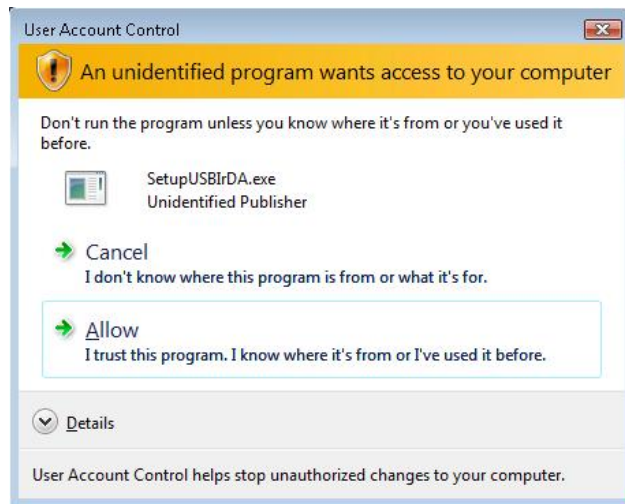
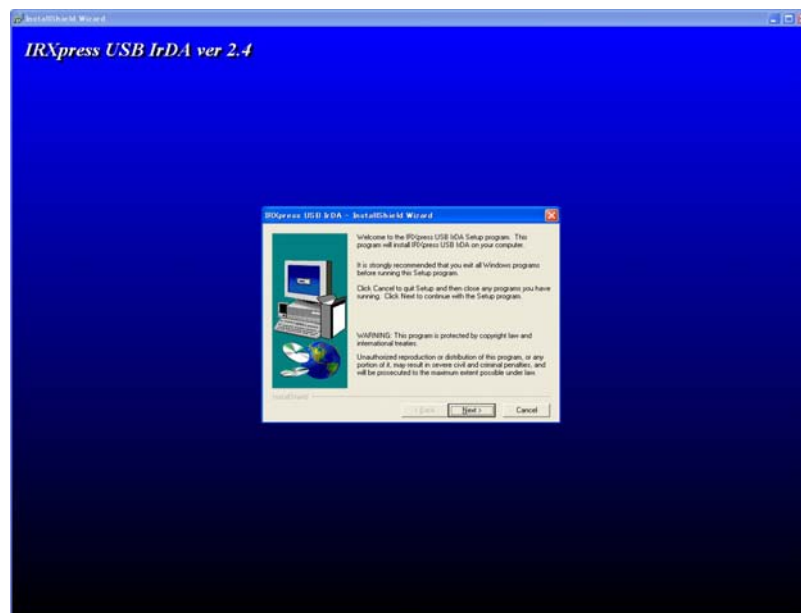
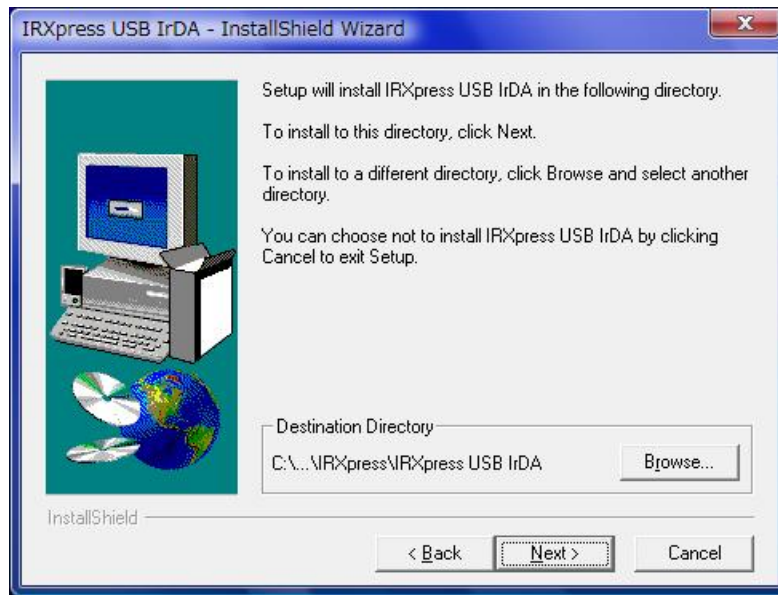

Figure 5.9
Figure 5.10
Figure 5.11
2. Choose **Allow** in Figure 5.9 to continue the installation. When the preparation is complete, the background screen changes to InstallShield Wizard screen (see Figure 5.10). The rest of screens in the installation process will show only pop-up screens and the background screen is omitted.
3. Click **Next >** button in Figure 5.10. The default installation path of Destination Directory appears in Figure 5.11.
4. Specify your own installation path in Figure 5.11 and click **Next >** button. The confirmation screen below appears.